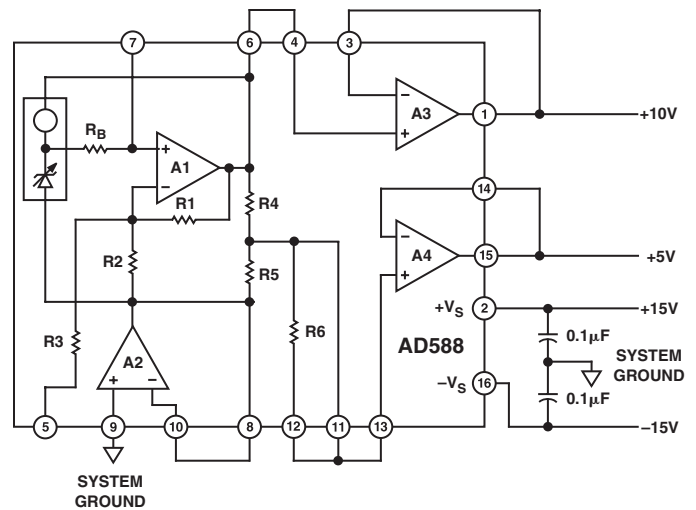
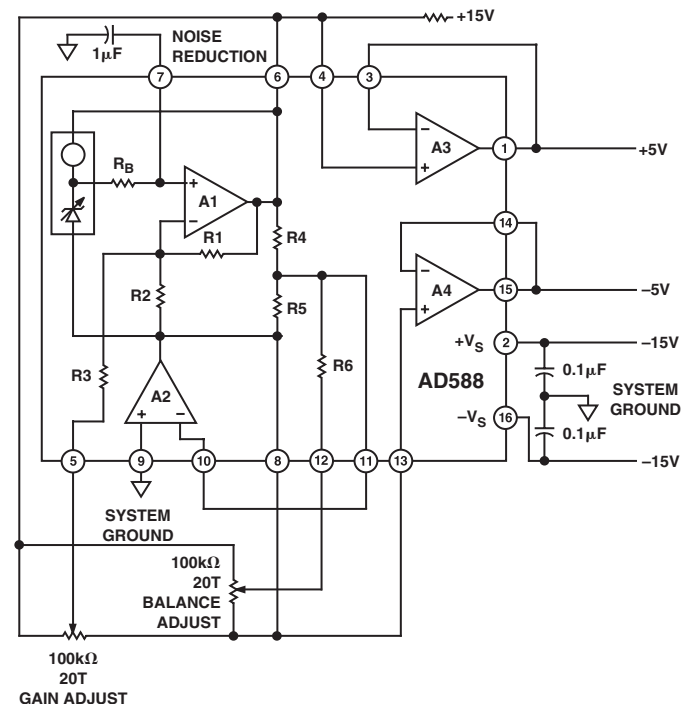
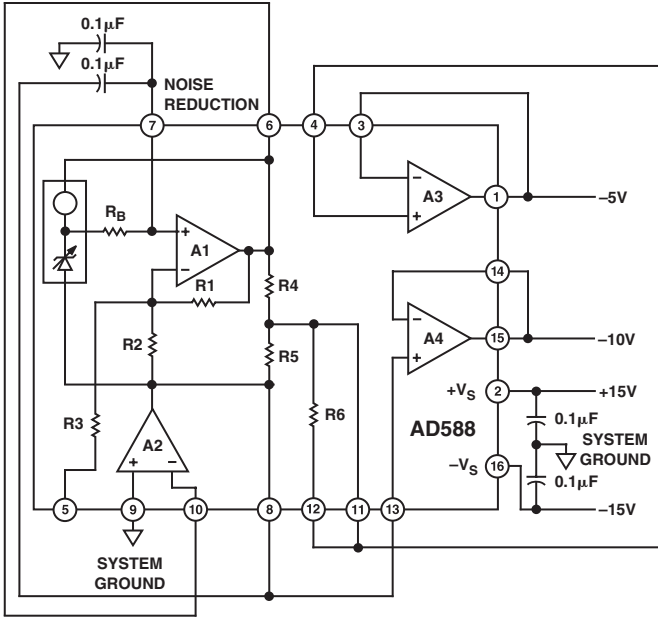
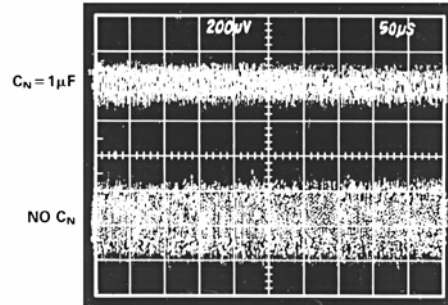

Figure 2a. +10 V Output
Figure 2b. +5 V and -5 V Outputs
Figure 2c. -10 V Output
Figure 4. Effect of 1  $\mu\text{F}$  Noise Reduction Capacitor on Broadband Noise
+10 V	Figure 2a
-10 V	Figure 2c
+5 V, -5 V, ±5 V	Figure 2b
The AD588 can be configured to provide +10 V and -10 V reference outputs as shown in Figures 2a and 2c, respectively. It can also be used to provide +5 V, -5 V, or a  $\pm 5$  V tracking reference, as shown in Figure 2b. Table I details the appropriate pin connections for each output range. In each case, Pin 9 is connected to system ground and power is applied to Pins 2 and 16.
The architecture of the AD588 provides ground sense and uncommitted output buffer amplifiers that offer the user a great deal of functional flexibility. The AD588 is specified and tested in the configurations shown in Figure 2a. The user may choose to take advantage of the many other configuration options available with the AD588. However, performance in these configurations is not guaranteed to meet the extremely stringent data sheet specifications.
As indicated in Table I, a +5 V buffered output can be provided using amplifier A4 in the +10 V configuration (Figure 2a). A -5 V buffered output can be provided using amplifier A3 in the -10 V configuration (Figure 2c). Specifications are not guaranteed for the +5 V or -5 V outputs in these configurations. Performance will be similar to that specified for the +10 V or -10 V outputs.
Amplifiers A3 and A4 can be used interchangeably. However, the AD588 is tested (and the specifications are guaranteed) with the amplifiers connected as indicated in Figure 2a and Table I. When either A3 or A4 is unused, its output force and sense pins should be connected and the input tied to ground.
Figure 2b shows GAIN and BALANCE trims in a +5 V and -5 V tracking configuration. A 100 kΩ 20-turn potentiometer is used for each trim. The potentiometer for GAIN trim is connected between Pin 6 (VHIGH) and Pin 8 (VLOW) with the wiper connected to Pin 5 (GAIN ADJ). The potentiometer is adjusted to produce exactly 10 V between Pin 1 and Pin 15, the amplifier outputs. The BALANCE potentiometer, also connected between Pin 6 and Pin 8 with the wiper to Pin 12 (BAL ADJ), is then adjusted to center the span from +5 V to -5 V.
If further noise reduction is desired, an optional capacitor,  $C_N$ , may be added between the NOISE REDUCTION pin and ground, as shown in Figure 2b. This will form a low-pass filter with the 4 k $\Omega$   $R_B$  on the output of the Zener cell. A 1  $\mu\text{F}$  capacitor will have a 3 dB point at 40 Hz and will reduce the high frequency (to 1 MHz) noise to about 200  $\mu\text{V}$  p-p. Figure 4 shows the 1 MHz noise of a typical AD588 both with and without a 1  $\mu\text{F}$  capacitor.
Note that a second capacitor is needed in order to implement the NOISE REDUCTION feature when using the AD588 in the -10 V mode (Figure 2c.). The NOISE REDUCTION capacitor is limited to 0.1  $\mu\text{F}$  maximum in this mode.